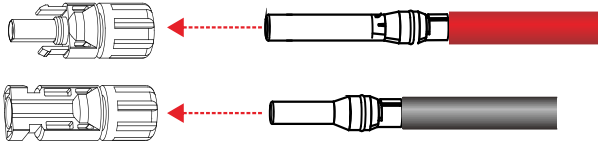

Figure 5.10 Inserting crimped metal terminals into plastic housings of the connectors
- Step 3 : Insert the crimped positive and negative metal terminals into the plastic housings of the corresponding positive and negative connectors until a “click” sound is heard, as shown in Figure 5.10